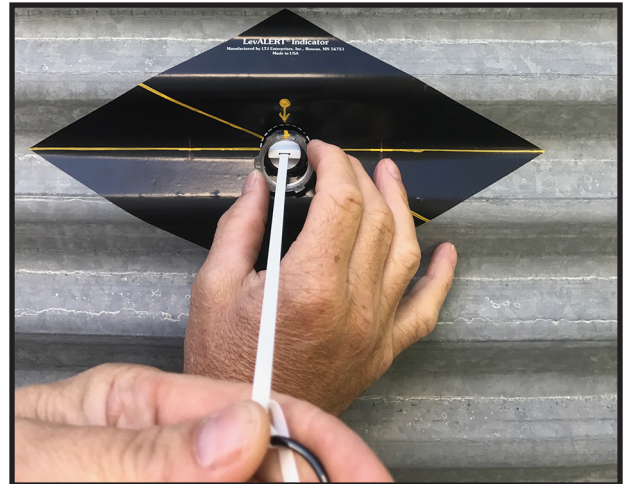

Figure 1i
- i. Keep light tension on the stop ring and position the yellow mark on the metal nut at a 12:00 position (same position as on activator body) and carefully thread nut onto threaded portion of activator body. **See Figure 1i**